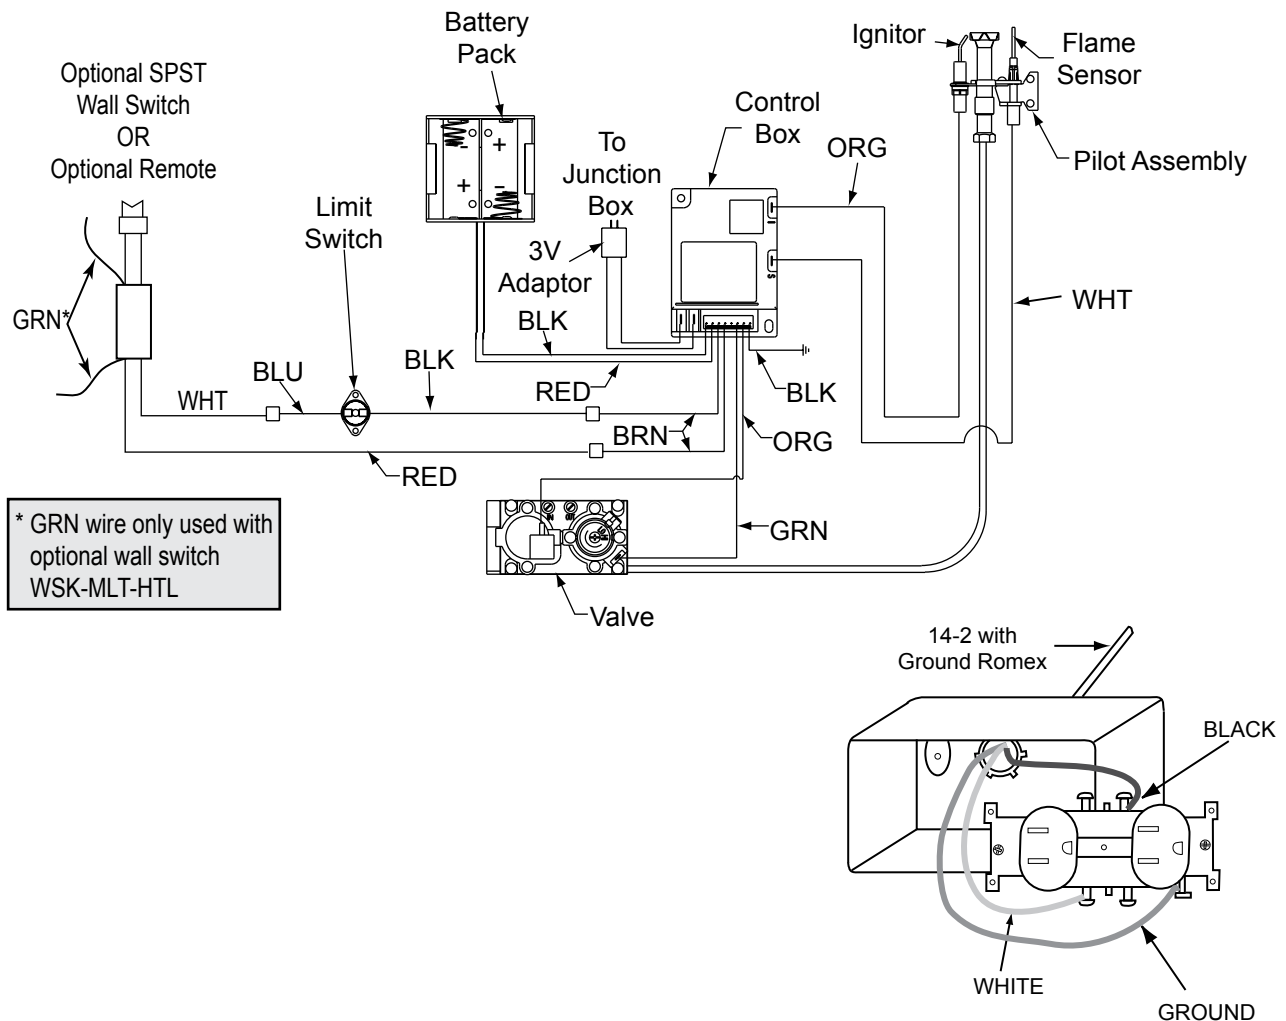

Figure 12.1 Intellifire Pilot Ignition (IPI) Wiring Diagram
- Refer to Figure 12.1. Intellifire Pilot Ignition (IPI) Wiring Diagram.